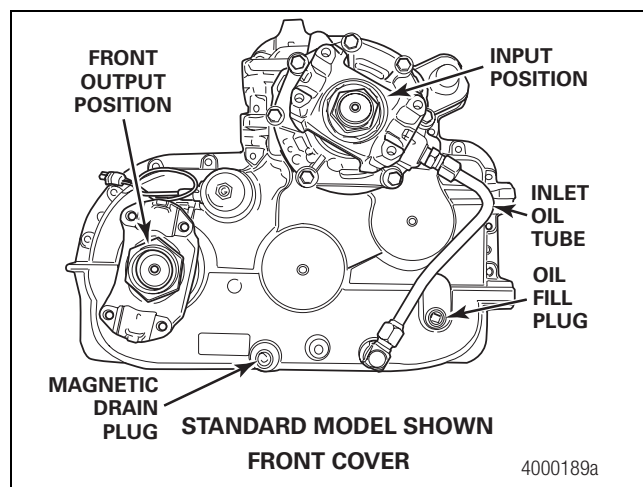

Figure 8.1
2. Clean the area around the fill plug. Remove the fill plug from the transfer case. Figure 8.1. The oil level must be even with the bottom of the fill plug hole.